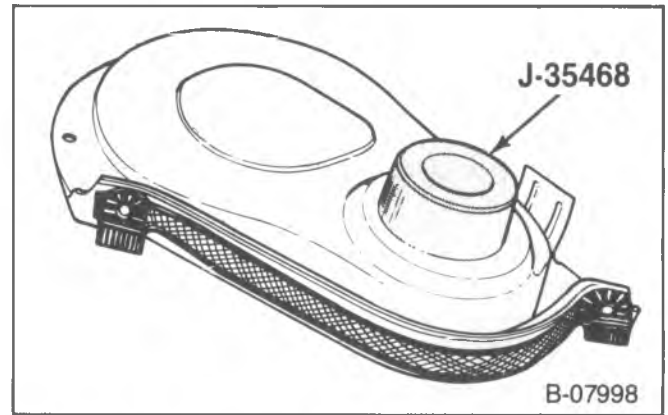

Figure 19—Installing The Front Crankshaft Seal
- Use J-35468 to press the seal into place (figure 19).